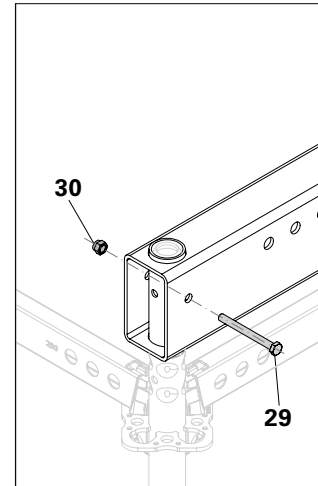

Fig. A8.01b
2. Fit the bolt (**29**) and nut (**30**) onto the ledger and leg – per ledger – 2x. (Fig. A8.01b)